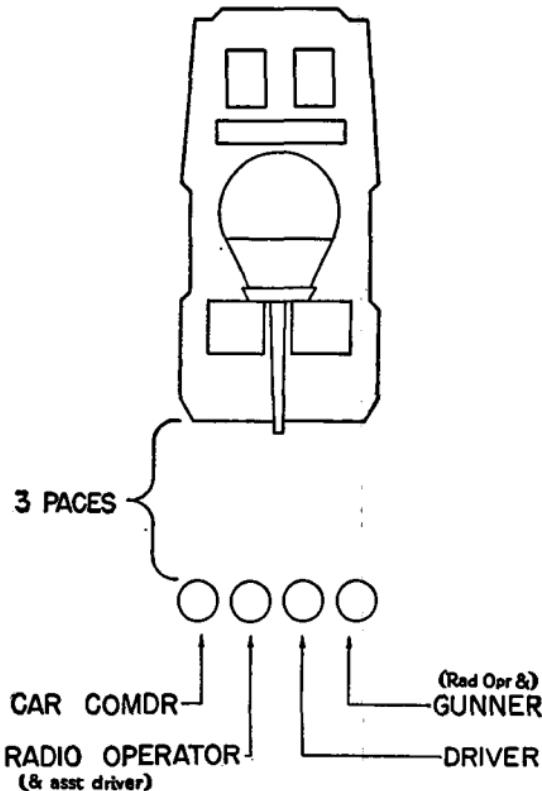

FIGURE 2.—Dismounted posts.
- 4. FORMATIONS.—*a. Dismounted posts.*—The crew forms in one rank. (See fig. 2.) The car commander takes his post three paces in front of the right front wheel, facing to the front. The radio operator, driver, and gunner, in that order, take posts on the left of the car commander at close interval (4 inches).
■ 7. To FORM CREW.—*a. Crew being dismounted.*—At the command DISMOUNTED POSTS, FALL IN, crew takes dismounted posts (see par. 4a and fig. 2). In falling in, crew members dress automatically on the car commander at close interval and then come to attention without command.